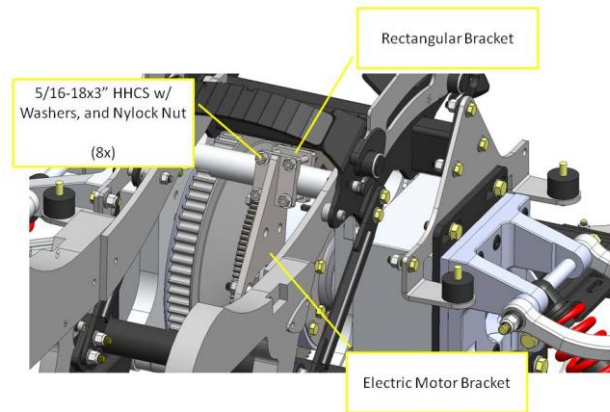

Figure 5
- j. Connect the electric motor mounting bracket onto the differential cross tubes by using the two rectangular pieces with the $\frac{5}{16}$ -18x3" HHCS, w/washers, and nylock nuts. Keep loose for adjustment. See Figure 5.